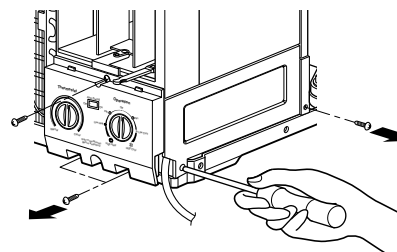

Figure 18
2. Pull the base pan forward so that you can remove the 2 screws which fasten the cover control at the right side. (See Fig. 18)
3. Remove the 3 screws which fasten the controlbox. (See Fig. 18)
7. Re-install the components by referring to the removal procedure. (See Fig. 18)